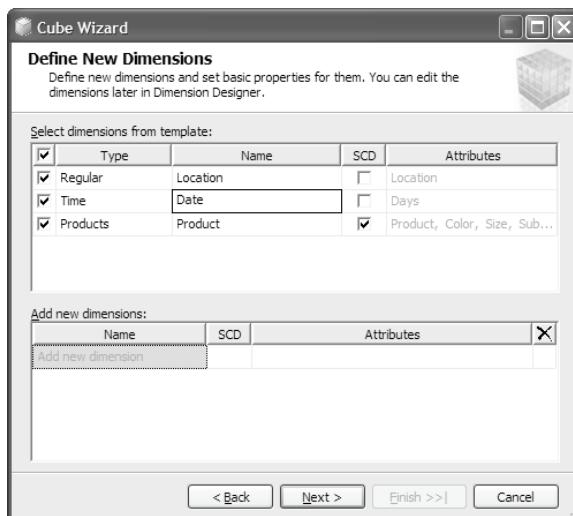

Figure 6.8 When generating UDM top-down, you can use dimension templates or create new dimensions.
4. You can create additional measures, if needed, by adding them to the *Add new measures* grid. Click Next to advance to the Define New Dimensions step (Figure 6.8).
1. Change the name of the Time dimension to **Date** and click Next to advance to the Define Time Periods step (Figure 6.8).